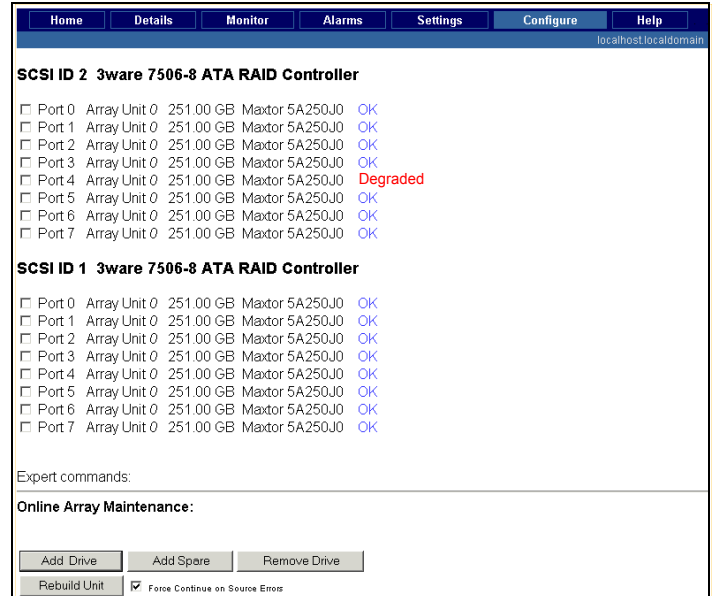

FIG. 2 Disk Management Utility - Configure page
4. Click on the **Configure** tab at the top of the screen to access the *Configure* page (FIG. 2) which lists all drives in each array and their status. If a drive has failed, it will be labeled "Degraded" rather than "OK".
4. Click on the **Configure** tab at the top of the screen to access the *Configure* page (FIG. 2) which lists all drives in each array and their status. If a drive has failed, it will be indicated on this page (labeled "Degraded" rather than "OK").